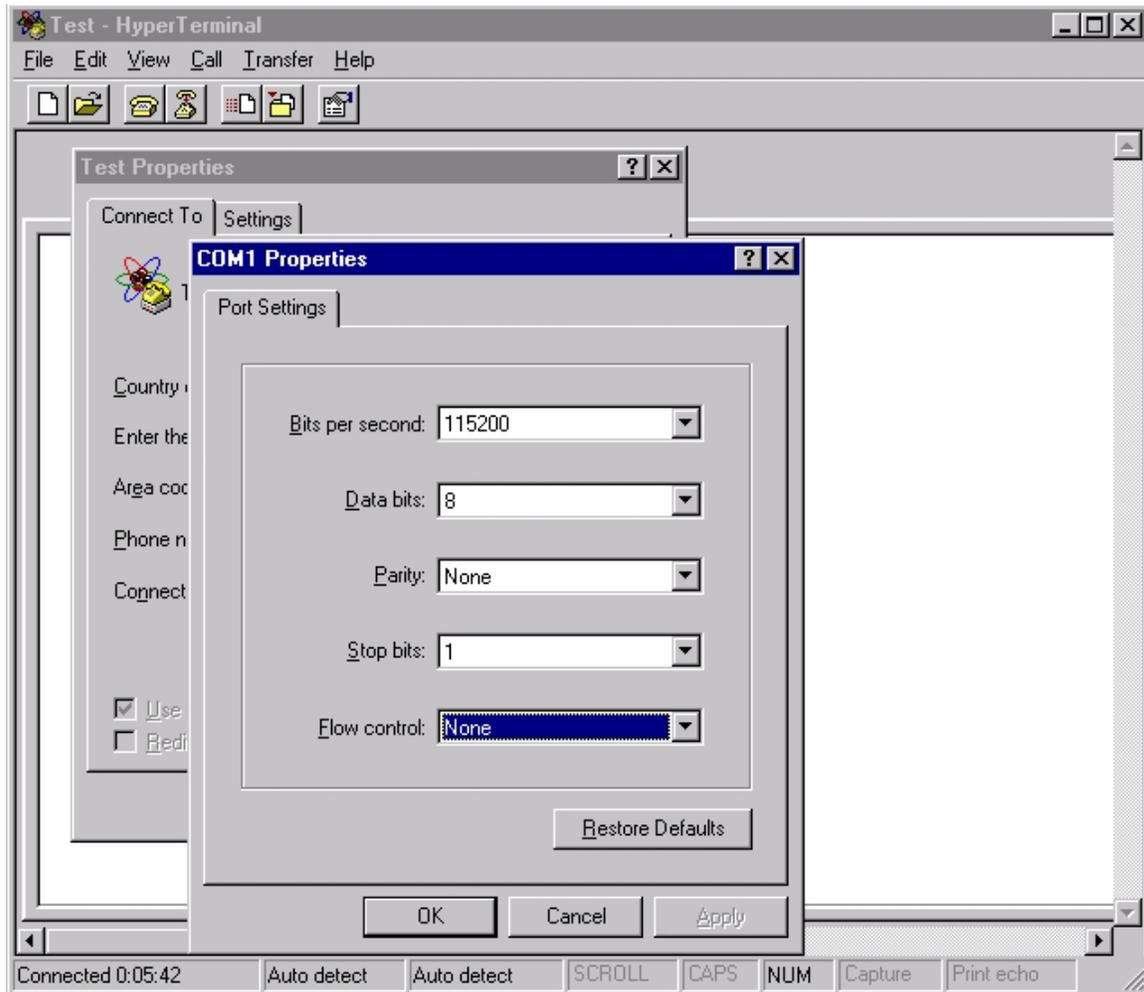

Fig. 13. Hyper Terminal. Port settings
9. Select proper features as shown in Fig. 13: